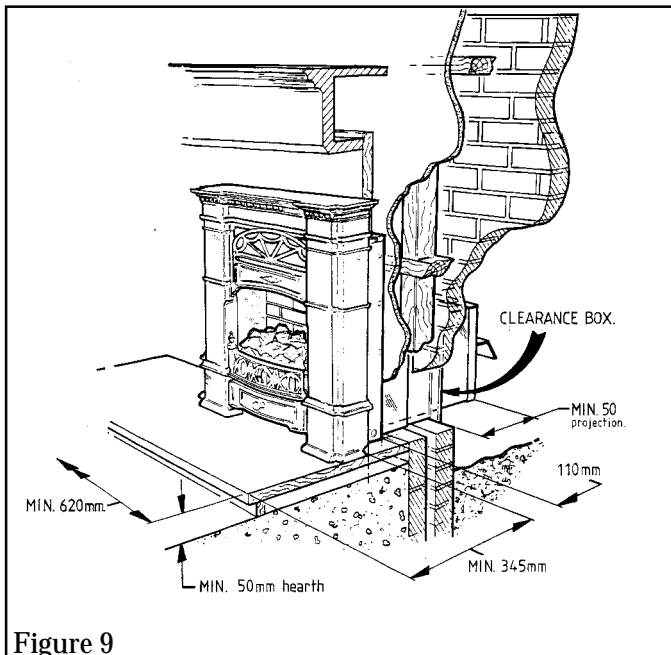

Figure 9
5.4 TIMBER FRAME BUILDING. CONVECTION BOX IN FRONT OF WALL (Figures 9 & 9a)
5.4.3. The non-combustible hearth must project at least 345mm in front of the convection box front flanges and be at least 620mm wide (Figure 9). For this type of installation the hearth must be at least 50mm thick over its total area. Kit 517TFK is designed for use with a hearth which is at least 50mm thick over its total area. For a hearth less than 50mm thick but at least 25mm thick, the bottom flange of the kit can be cut off. A hearth less than 25mm thick over its total area can not be used.
5.4.10A sloping plate should be fitted above the clearance kit in accordance with The Institute of Gas Engineers publication IGE/UP/7 "Gas installations in timber frame buildings". Section 8.2.1.7. See figures 9 & 9a.